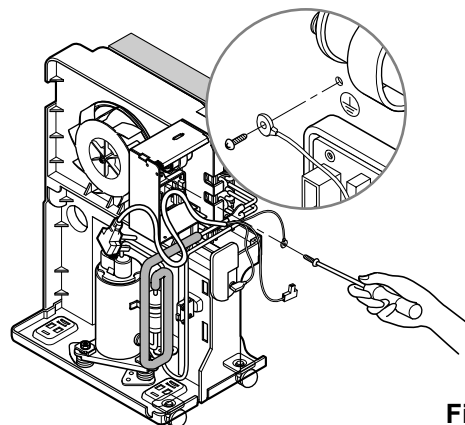

Figure 14
1. After opening the control box, remove the screw that holds the ground wire. (See Figure 14)